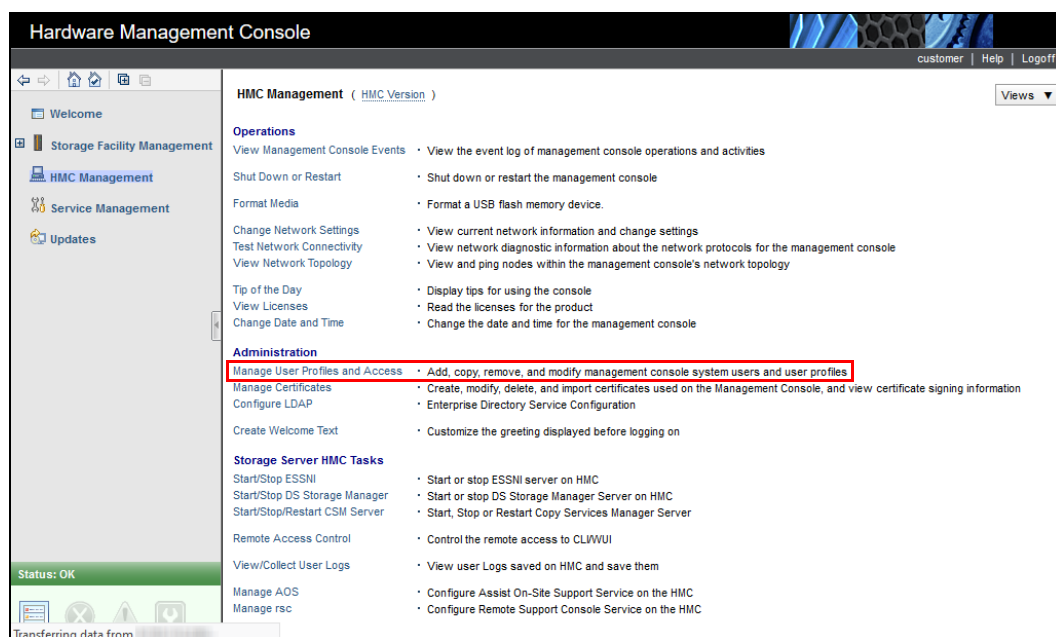

Figure 6-19 Manage User Profiles and Access
2. In the HMC Management window, select **Manage User Profiles and Access**, as shown in Figure 6-19.